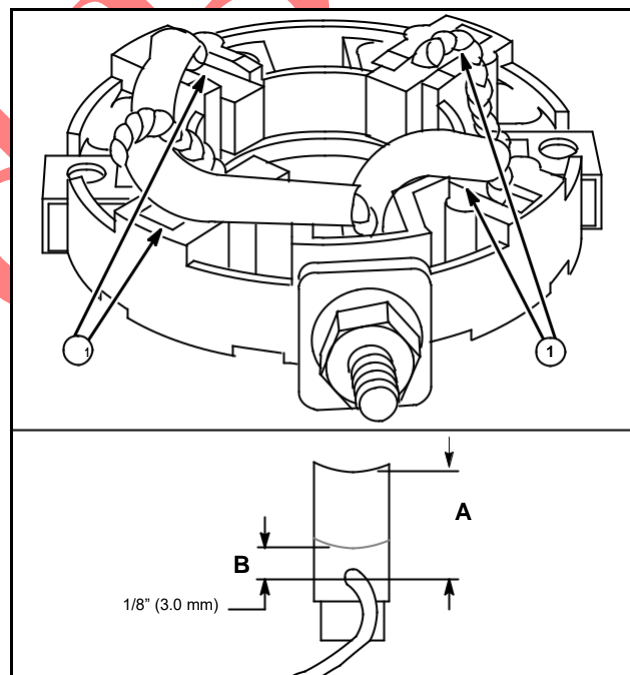

Fig. 70
13. If brushes are worn to within 1/8" (3.0 mm) of wire at closest point (B), replace brushes, Fig. 70. New, full brush size shown (A).
7. If brushes are worn to within 1/8" (3.0 mm) of wire at closest point, replace brushes, Fig. 70.